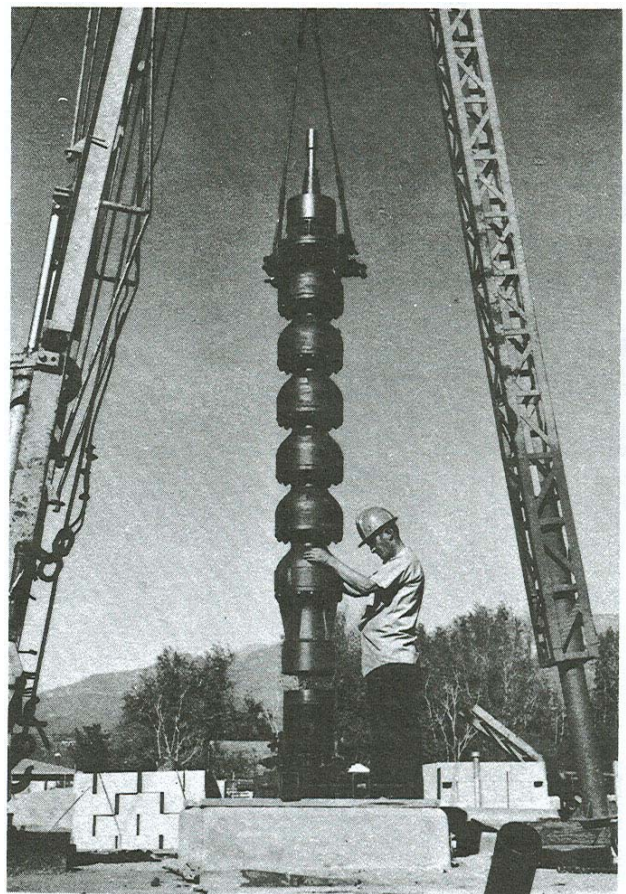
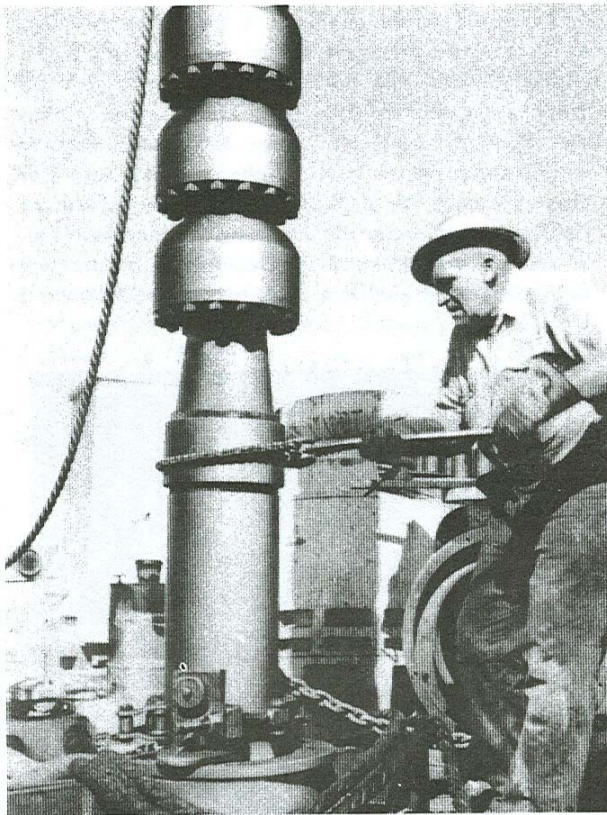

Fig. 7-3. Bowl Unit Positioned Over Suction Pipe.
Fig. 7-4. Installing The Bowl Unit On The Suction Pipe.
clamp and hoist hook as before. When hoisting the bowl unit, the lower end should be guided by a dragline (sand line) which is pulled by the hoist. The dragline may be passed through a pulley (traveling block) hooked onto a sling which is wrapped around the bowl unit. A similar dragline installation is shown in Fig. 7-6 applied to a column section. If a power-operated dragline is not available, the lower end must be guided manually to prevent dragging and possible damage. Hoist the bowl unit directly over the top of the suction pipe. (See Fig. 7-3.) Clean the threads at the upper end of the suction pipe and lubricate them with thread compound or engine oil. Carefully lower the bowl unit until the threads can be engaged by hand. Use chain tongs as shown in Fig. 7-4 to complete the joint.
1. Securely fasten an elevator clamp to the bowl unit just below the column coupling. Attach a sling to the elevator clamp and pass the looped end over the hoist hook. (See Fig. 7-3.) The lower end of the suction pipe should be guided by a dragline (sand line) which is pulled by the hoist. The dragline may be passed through a pulley (traveling block) hooked onto a sling which is wrapped around the suction pipe. (A similar arrangement is